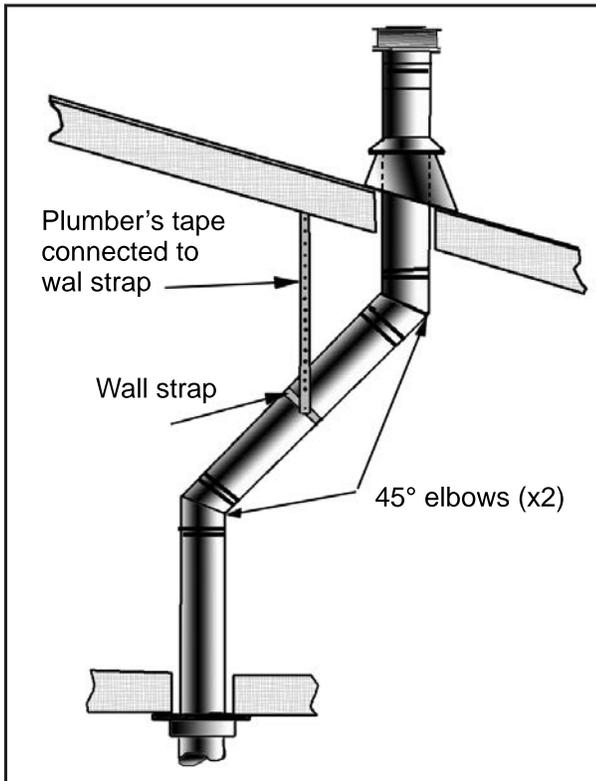
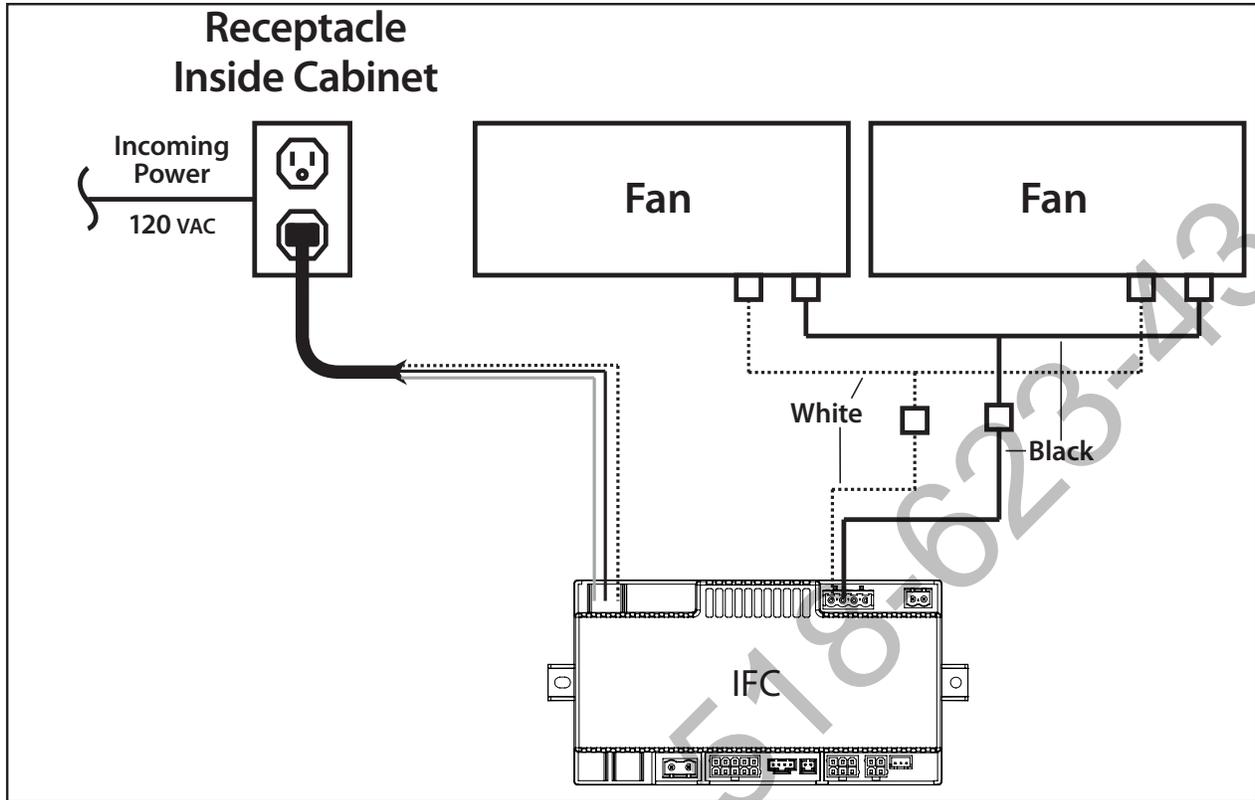

Figure 51: Use of Wall Straps.
Figure 56: Fan Kit Wiring Diagram
- (1) If an offset is necessary in the attic to avoid obstructions, it is important to support the vent pipe every **3' (914 mm)**, to avoid excessive stress on the elbows, and possible separation. Wall straps are available for this purpose (see Figure 51).
- (2) When ever possible, use 45° degree elbows instead of 90° degree elbows. The 45° degree elbow offers less restriction to the flow of flue gases and intake air.
- (3) For multi story installations; a ceiling firestop is required at the second floor, and any subsequent floors (see Figure 56). The opening should be framed to **10" (254 mm) x 10" (254 mm)** inside dimensions, in the same manner as shown in Figure 44.
- (4) Any occupied areas above the first floor, including closets and storage spaces, which the vertical vent passes through, must be enclosed. The enclosure may be framed and sheet-rocked with standard building materials. However consult the appliance manufactures installation instructions for the minimum allowable clearance between the outside of the vent pipe, and the combustible surfaces of the enclosure. Do not fill any required air spaces with insulation.